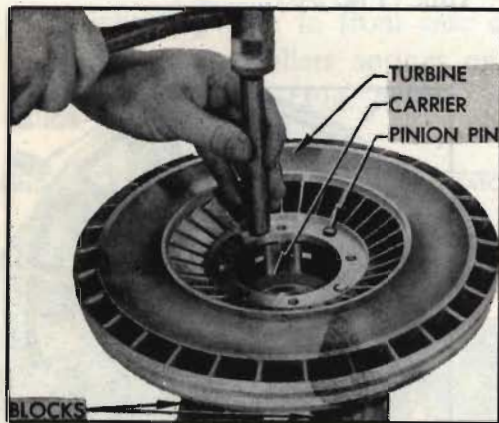

Fig. 35. Installing turbine on carrier
5. Support the carrier as shown in Fig. 35. Install pinion gear pins to act as pilots. Start carrier squarely in recess in turbine.
6. Using a hammer and a soft punch, gently tap turbine down over carrier (Fig. 35).